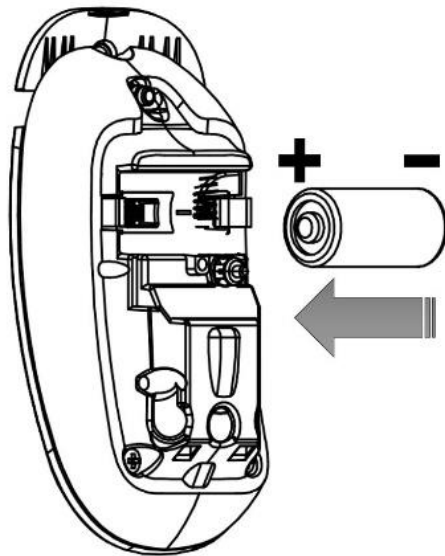

Figure 3
5. Place a battery as instructed in Figure 3 and wait until the Red LED stops blinking.